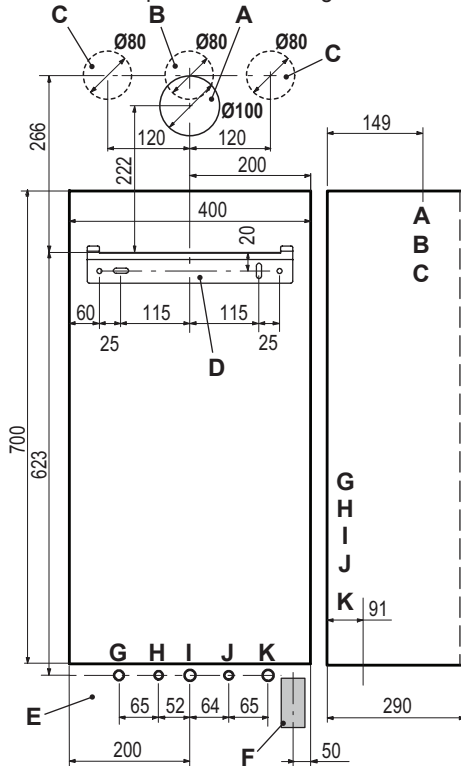

Fig. 6.2
- Fix the water valve "O" (½") to position "J" (Fig. 6.2) using the ½" gasket.
- Fix the C.H. valves "N" to position "G" and "K" (Fig. 6.2) using the ¾" gaskets.
- Fix the gas cock "P" to position "I" (Fig. 6.2), using the ¾" gasket.
- Fix the Ø 15 mm copper pipe "Q" to position "H" (Fig. 6.2) using the ½" gasket.